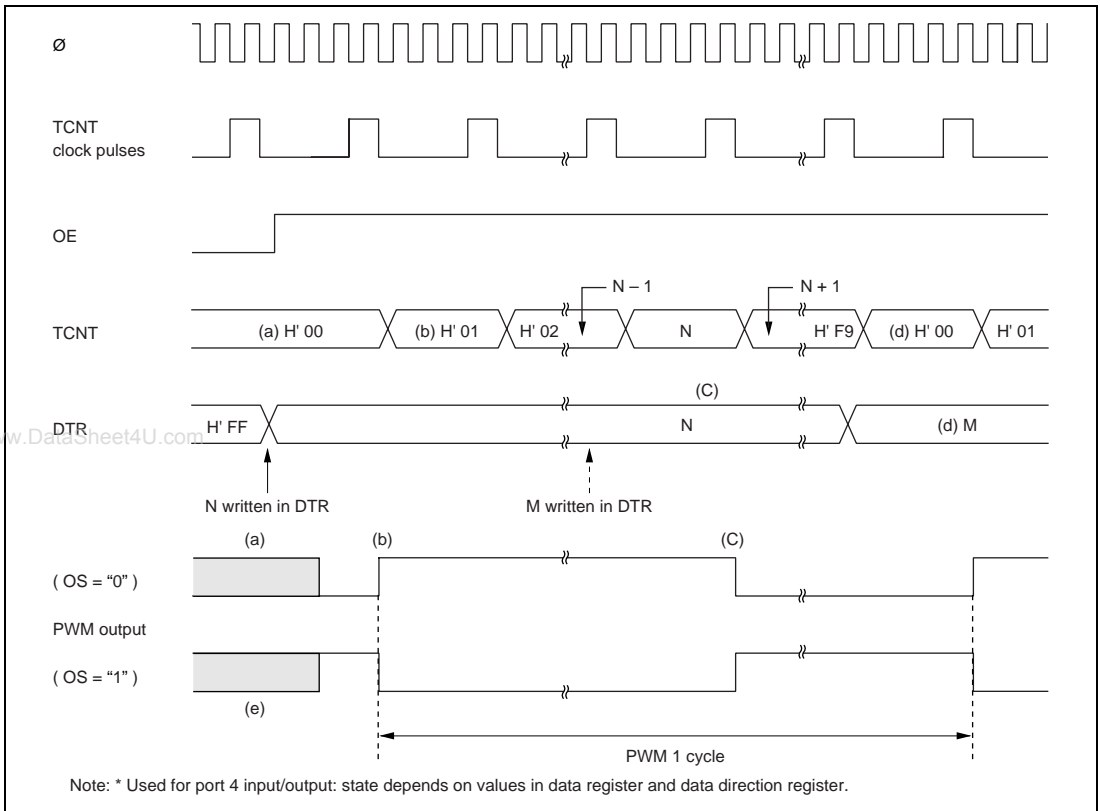

Figure 9.3 PWM Timing
Figure 9.3 is a timing chart of the PWM operation.
(1) Positive Logic (OS = "0")
① **When (OE = "0")** – (a) in Figure 9.3: The timer count is held at H'00 and PWM output is inhibited. [Pin 4₆ (for PW0) or pin 4₇ (for PW1) is used for port 4 input/output, and its state depends on the corresponding port 4 data register and data direction register.] Any value (such as N in figure 9.3) written in the DTR becomes valid immediately.
② When (OE = "1")
- i) The timer counter begins incrementing. The PWM output goes High when TCNT changes from H'00 to H'01, unless DTR = H'00. [(b) in figure 9.3]
- ii) When the count passes the DTR value, the PWM output goes Low. [(c) in figure 9.3]
iii) If the DTR value is changed (by writing the data “M” in figure 9.3), the new value becomes valid after the timer count changes from H'F9 to H'00. [(d) in figure 9.3]
(2) **Negative Logic (OS = “1”) - (e) in Figure 9.3:** The operation is the same except that High and Low are reversed in the PWM output. [(e) in figure 9.3]